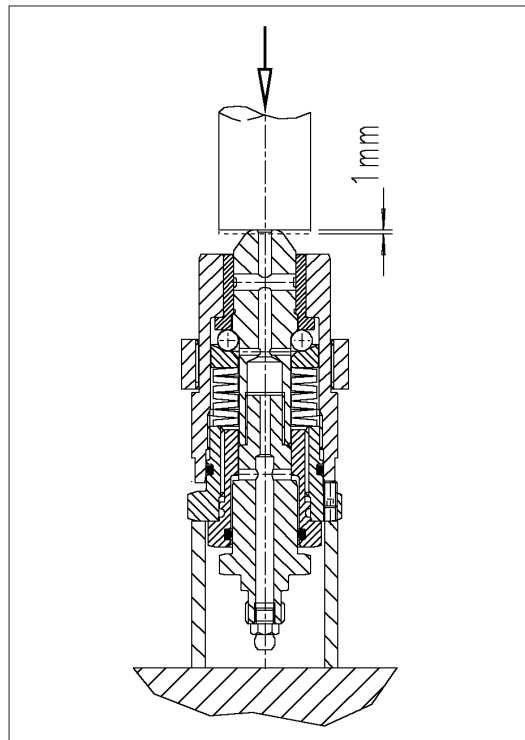

Figure 5 — Preparing a Module for Fitting
- 9.5. Take the module and place under a hand press, supported on the adjuster, with the plunger uppermost (see fig. 5).